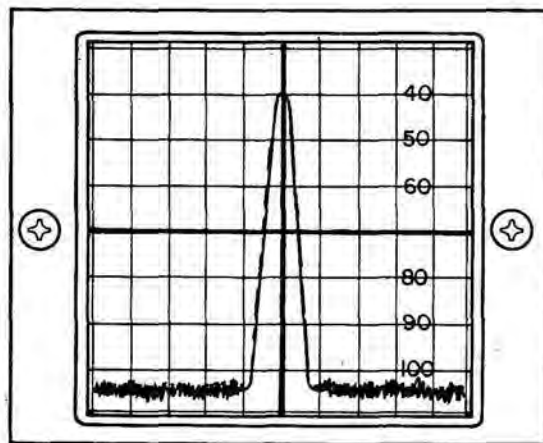

Figure 3-21 -40 dBm BFO Signal Measured Along dB Scale Of CRT
24. Set HI LVL/ μ V x 100/NORM Switch (3) to " μ V x 100" and verify that the displayed signal on CRT Display (36) is -40 dBm (\pm 9 dB) in amplitude (see Figure 3-21).